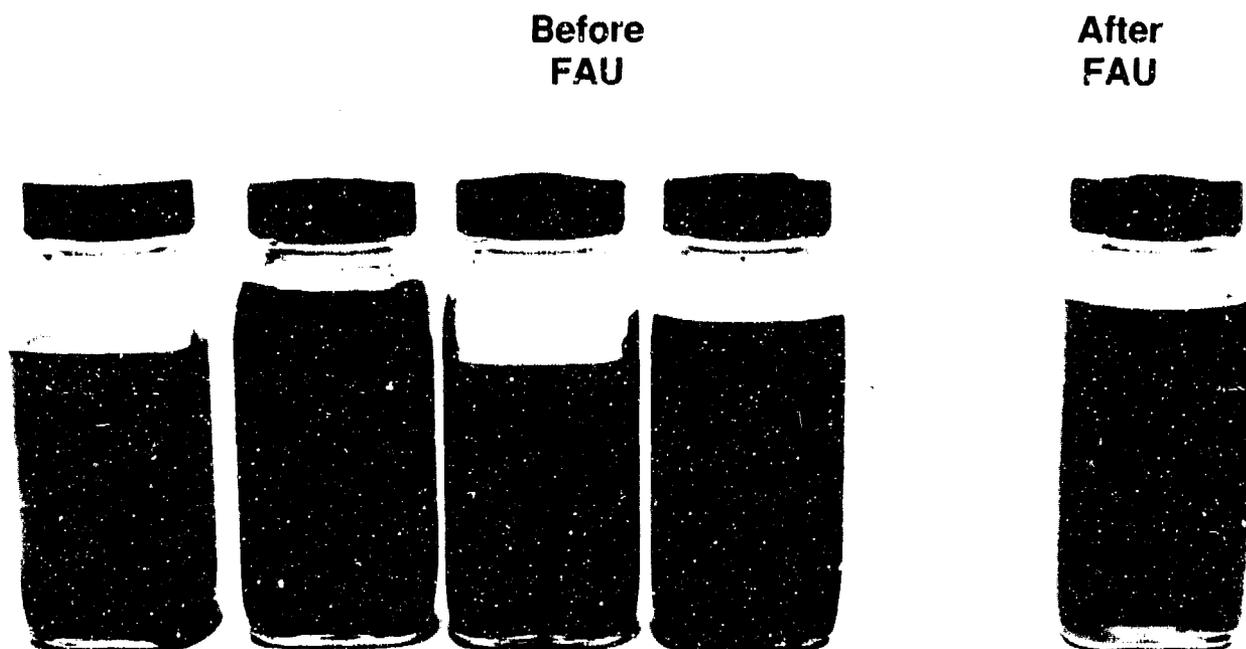
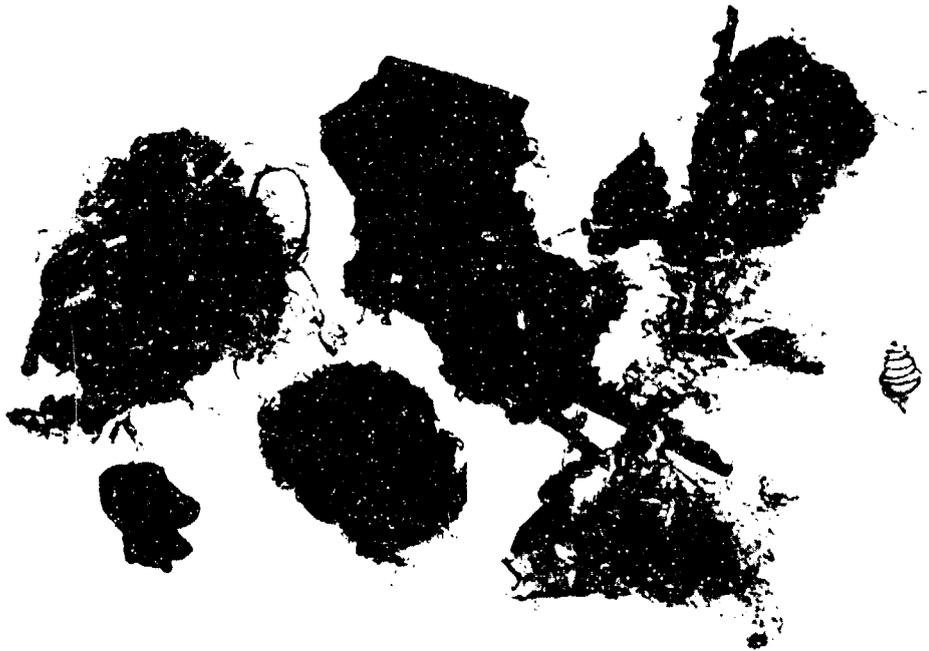

Figure 4. Fuel sample from M1A1 and M113 front fuel cells
Figure 5. Debris from an M1A1's front fuel cell collected in a 40-mesh wire screen
As shown in Fig. 4, the fuel was heavily contaminated with both water and particulate. The water contamination is generally created by the fuel cells "breathing." In geographical areas with high humidity, the air contains large quantities of moisture, which condenses when ambient temperatures decrease. The heavy, black particulate debris is fuel degradation products,
(TAM) insolubles]. Some of the black debris may be residual microbiological growth, which has been killed with the biocide portion of MIL-S-53021 that Ft. Stewart uses. Also, Fig. 4 illustrates that the FAU is capable of removing these contaminants and returning "clean and bright" fuel to the fuel cell. Additional contaminants were removed from the 40-mesh wire screen that protects the pump (Fig. 5). The main component that plugged this screen was a tarry asphalt-like material. This tarry material contained other contaminants such as: 1) fiberglass shavings, 2) check valves, 3) paper, and 4) elastomer materials (Fig. 6). Fig. 7 illustrates the large quantity of toluene/acetone/methanol (TAM)-insoluble material present. This material is an indication of inorganic or high molecular weight resinous materials that help plug the fuel filters. Fig. 7 also illustrates the presence of metallic flakes in this composite. In general, a fuel filter will not encounter all these materials, but, obviously, many were encountered during these operations.
Use of the FAU was requested by the U.S. Marine Corps, 1st Reconnaissance Battalion, Light Armored Vehicles (LAVs), at Camp Pendleton, CA.(9) The FAU was transported via truck to Camp Pendleton. The LAVs were experiencing filter plugging problems similar to those found at Ft. Stewart, GA, Fig. 4, due to fuel degradation products and water contamination. However, it was found that due to the use of FOA-15, the Fuel Oil Additive portion of MIL-S-53021, the fuel degradation products were smaller. This particulate tended to plug the final, 0.5 micrometer, filter on the FAU, instead of the middle, 5 micrometer, filter.